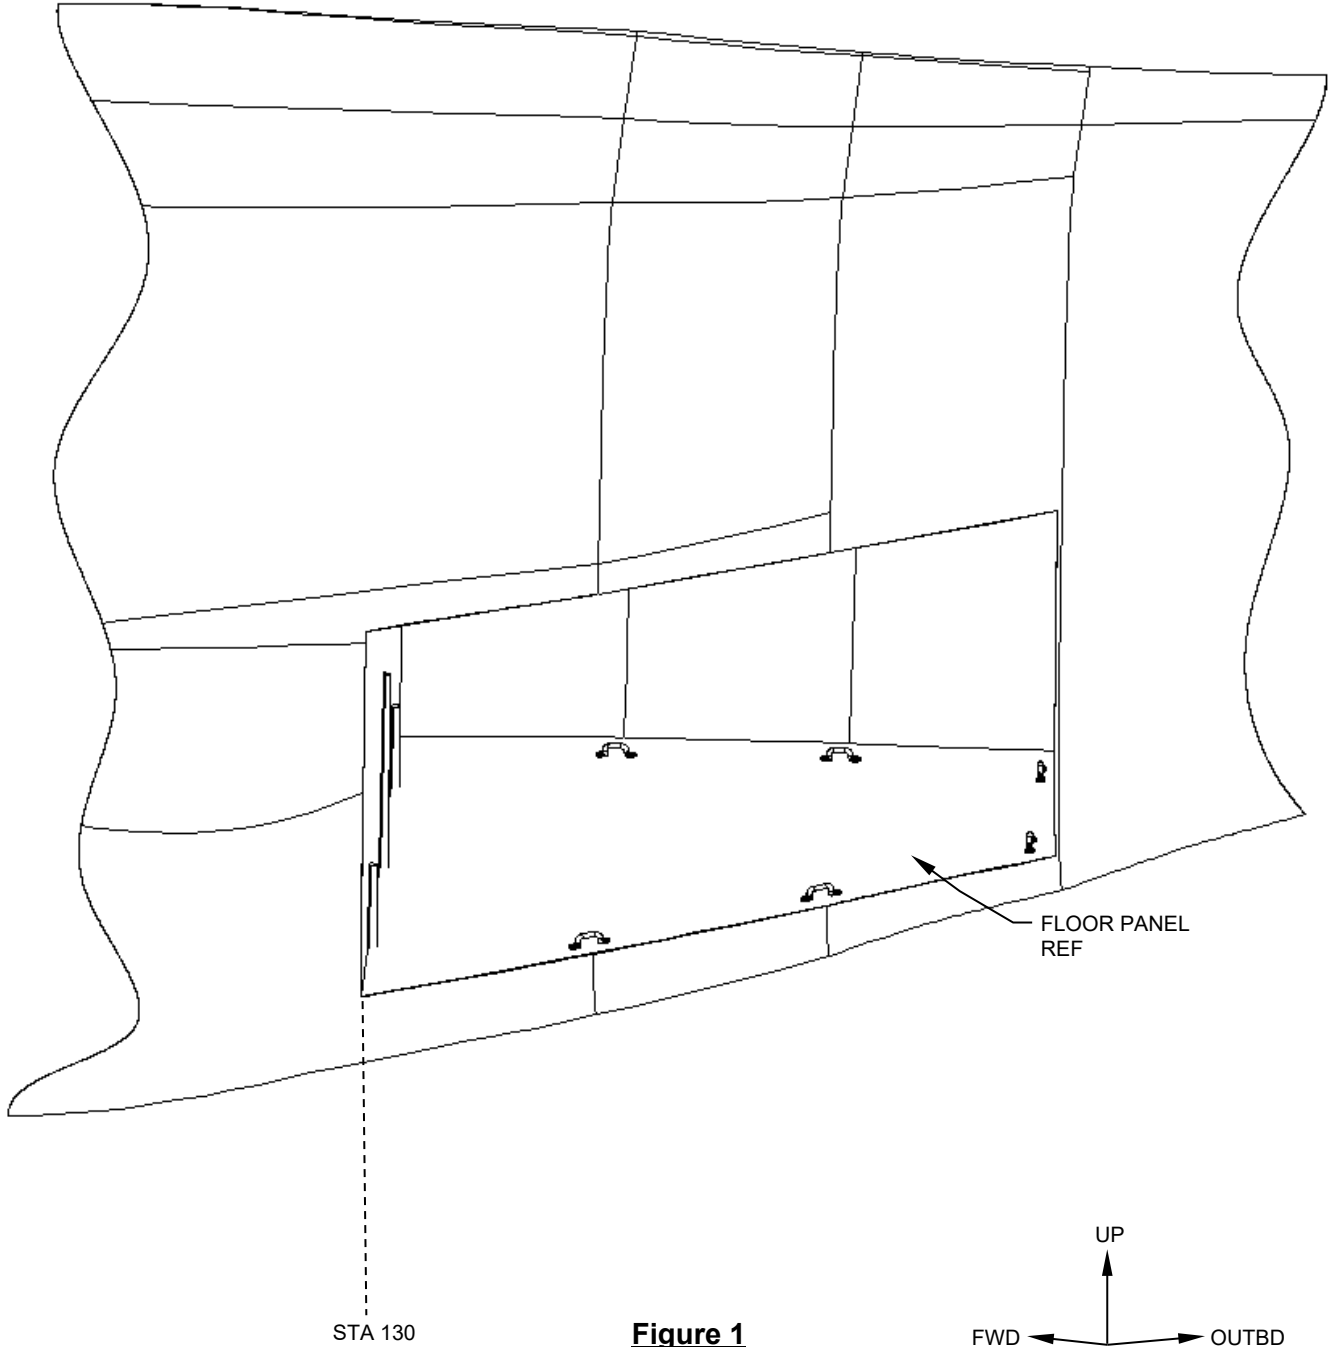

Figure 1
1. Gain access to the baggage compartment floor. Reference Figure 1.
2. Pre-fit the Panel, Assy (Item 1) by lining up the slots & oval cut outs with the footman loops & ribs mounted to the floor panel. Reference Figures 1 & 2.